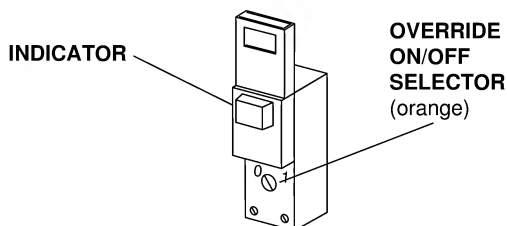

Figure 9. Air Signal Valve
To turn a function ON, locate the override on/off (orange) selector on the air signal valve (*see Figure 9*). Using the small narrow-tipped screwdriver provided with the unit, *carefully* turn the override on/off selector clockwise a 1/4 turn to the ON (1) position. **Do not** turn the override on/off selector beyond the ON (1) position.
Use minimal force when adjusting the override on/off selector (*see Figure 9*). Excessive force or turning the override on/off selector too far will permanently damage the air signal valve.
When the manual override is used, the indicator on the air signal valve will not illuminate (*see Figure 9*). Manual override is a means of turning a Master touch pad function ON. The function will remain ON until the unit has been turned OFF or the air signal valve has been manually turned OFF.